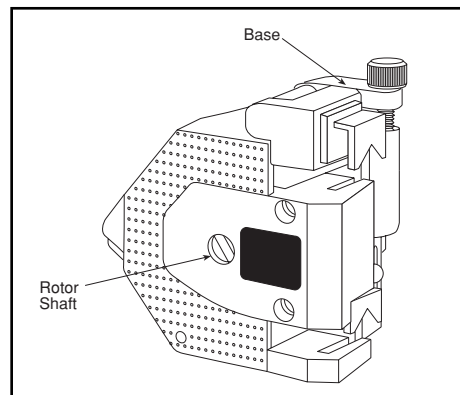
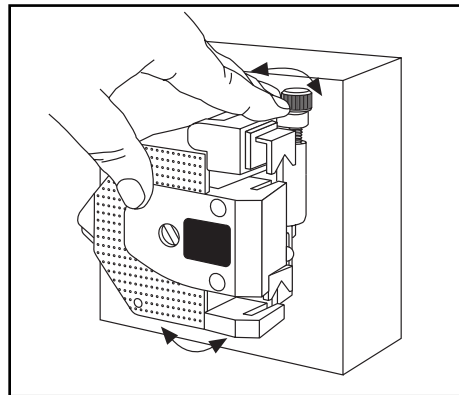

Figure 3-1. Pump in Closed Position
Figure 3-3. Pump in Closed Position
Refer to Figures 3-1 through 3-4.
2. Refer to Figure 3-1. Make sure the pump is in the closed position.
4. Refer to Figure 3-3. Swivel the pump back and forth slightly to align the holes on the back of the Base with the alignment pins on the face of the motor. Press the pump base up against the face of the motor.
2. Refer to Figure 3-1 through Figure 3-3. Perform Steps 1, 2 and 3 in Section 3.1.2 to put the first pump on the face of the motor.
3. Refer to Figure 3-1. Make sure the second pump is in the closed position.